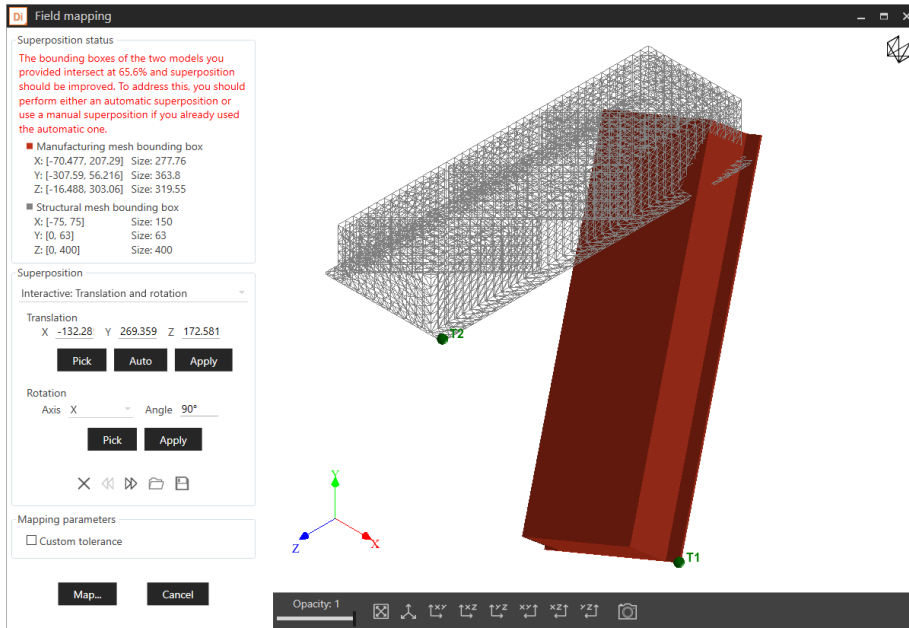

Figure 5-20 Picking two equivalent points to define translation.
- Translations happen following a translation vector applied to the manufacturing mesh. The vector can either be user-defined if component values are known, or be defined by picking two equivalent nodes from the manufacturing and component meshes (in this order). The definition of these two equivalent points is accessible when clicking on the **Pick** button. Picked nodes are highlighted by spheres. Once two nodes have been picked, the corresponding translation vector is computed and can further be applied (see Figure 5-20). A third available option is to automatically suggest a recommended translation based on the current positions of the two meshes, using the button labeled Auto. This recommended translation is computed without taking into account the orientation of the meshes and aligns the centers of the bounding boxes of the two meshes. This provides a quick fix if the two meshes are identical and in the same orientation, or a useful first step otherwise, especially if the two meshes are very distant from each other.